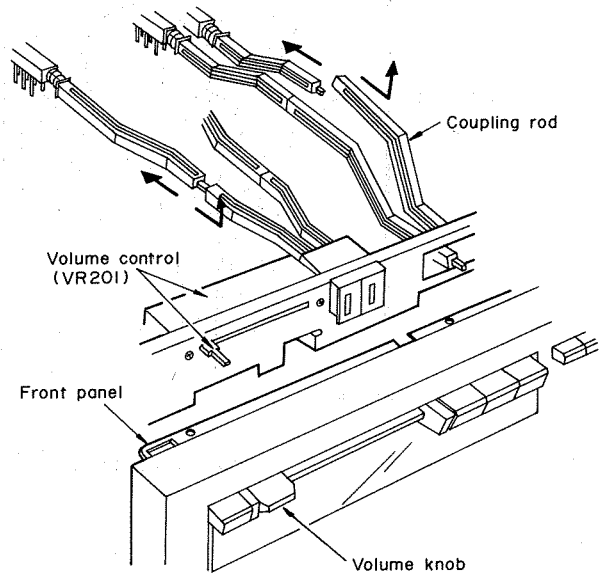

Fig. 17
- (2) When mounting the front panel after its removal, bring the volume control (VR201) position to the left or right side end as shown in Fig. 17, and also match the knob attached to the front panel with the volume position.
- (1) When removing the coupling rod for the purpose of switch replacement or logic circuit repair, pull the rod as shown in Fig. 17 with the switch depressed and the button most projected (maximum stroke).